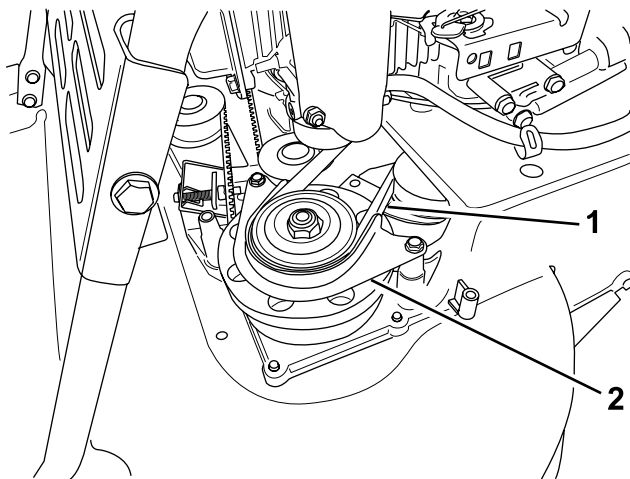

Figure 42
7. Remove the BBC belt guard (Figure 42).